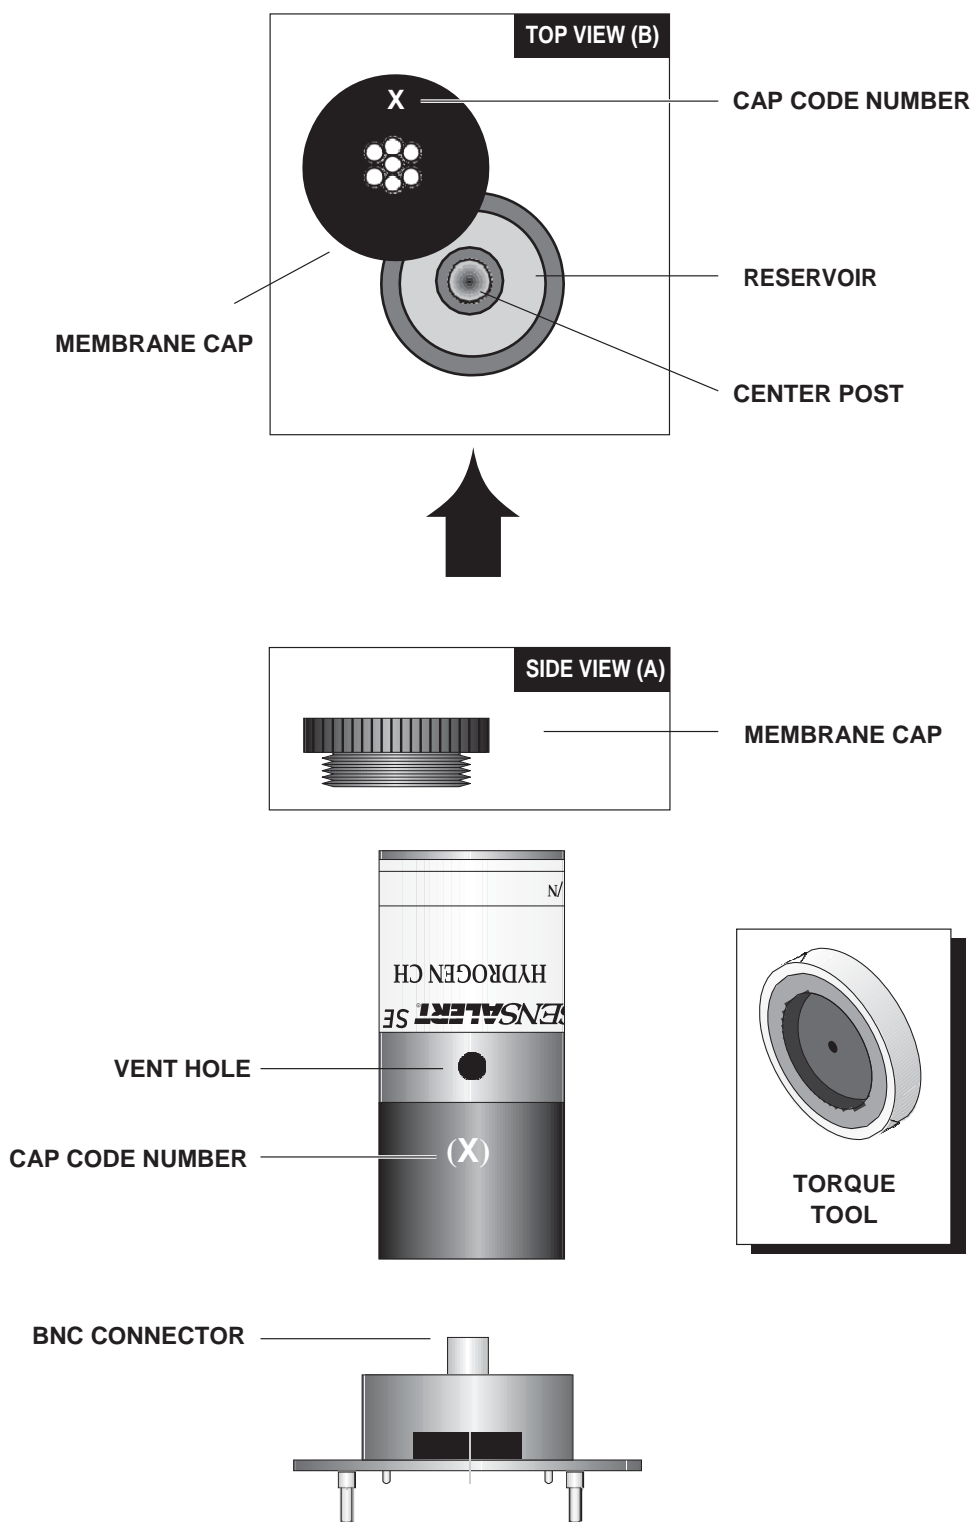

Figure 4.1
This inspection procedure should be performed every three (3) months (normal operating conditions). Refer to Figure 4.1.
- 6) Refer to Figure 4.1. With the membrane cap still facing down, inspect the cap for leakage.
Replace the membrane cap and electrolyte as follows (refer to Figure 4.1):
- 8) Remove the new membrane cap from its packaging. Ensure that the cap code number is equal to or greater than the code number in parenthesis on the outer wall of the sensor (shown as "X" in Figure 4.1).